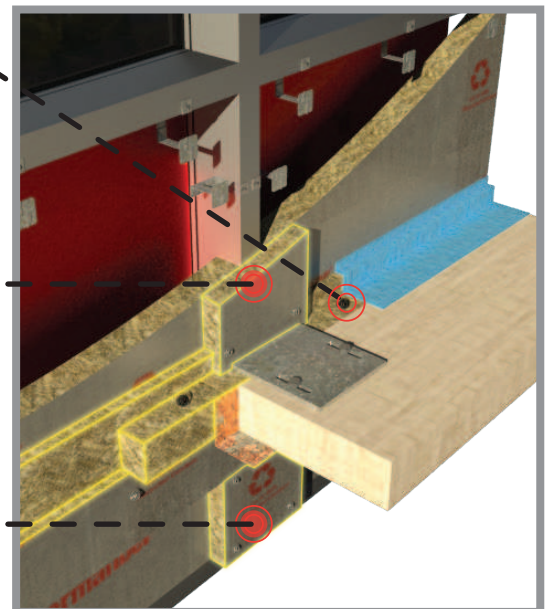

Figure 5
Step 3- Protect exposed vertical mullions with 2" minimum thickness x 10" wide FireSpan 90 Insulation Mullion Covers. Mullion Covers are to be centered over mullions and secured to curtain wall insulation with Spiral Anchors spaced a maximum of 12" oc. Mullion Covers are to be notched to step over the FireLedge material and abut the top of the Safing Insulation. Mullion Covers below the floor will abut to the bottom of the FireLedge material. See Figure 5.